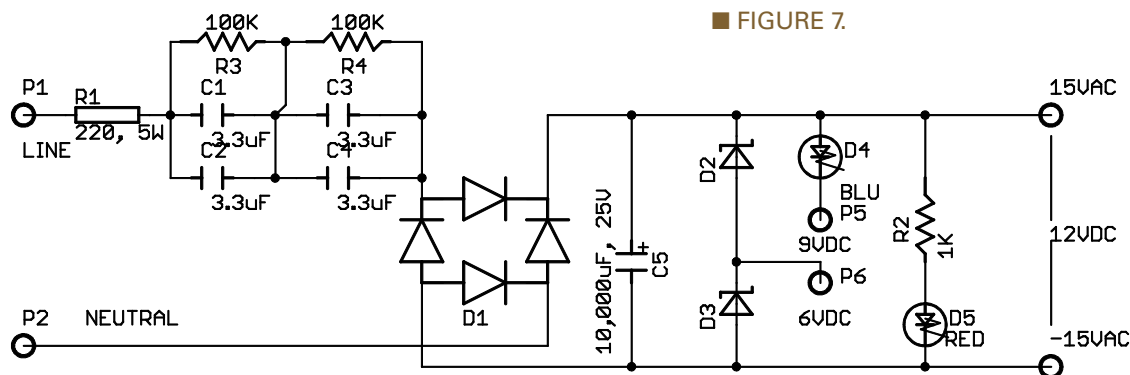

FIGURE 7.
13.5 watts that would otherwise go to the loads. However, since it is only an exercise, this is how I would do it. **Figure 7** is the circuit from the May issue; I will use it only for reference.